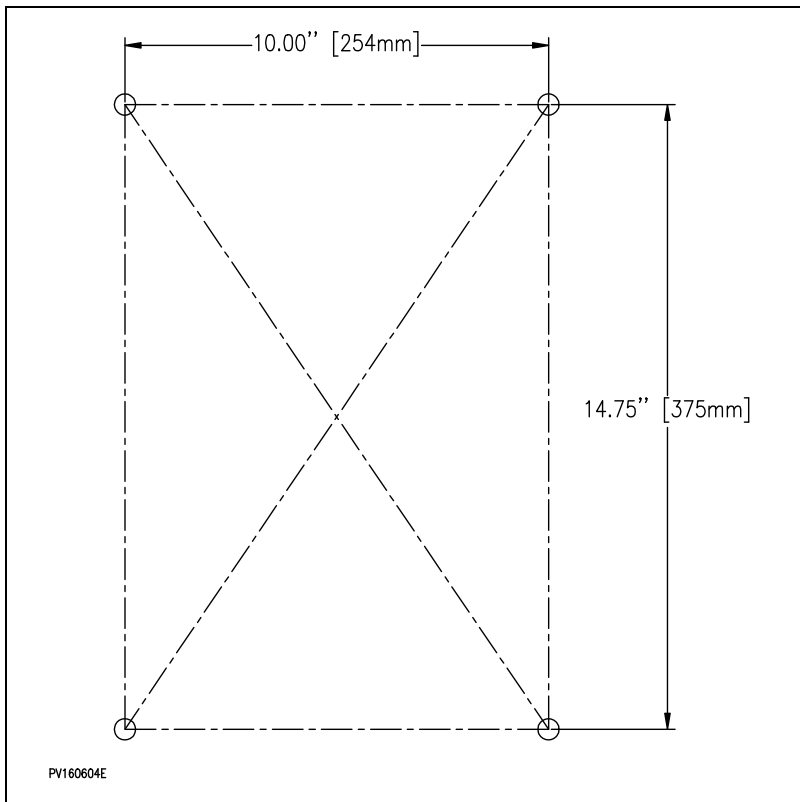
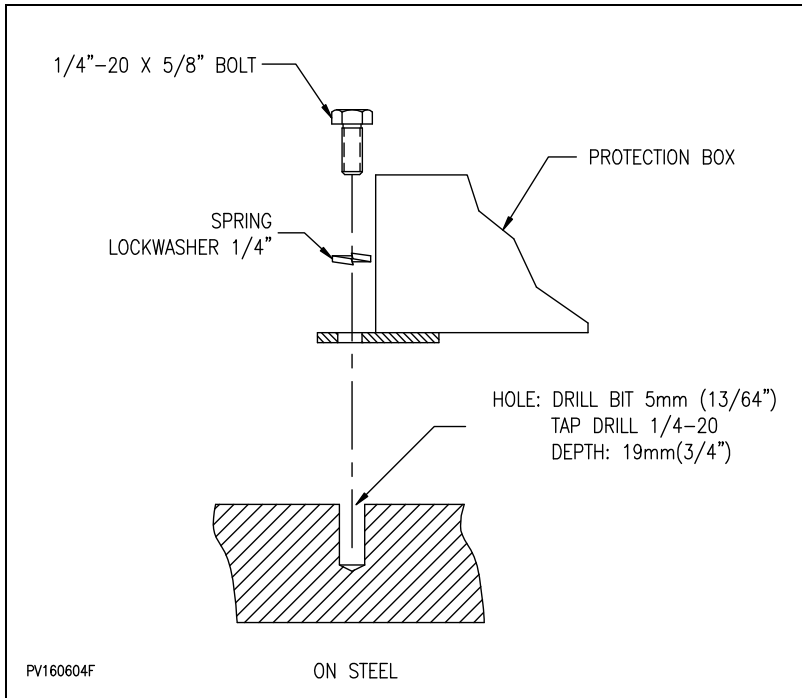
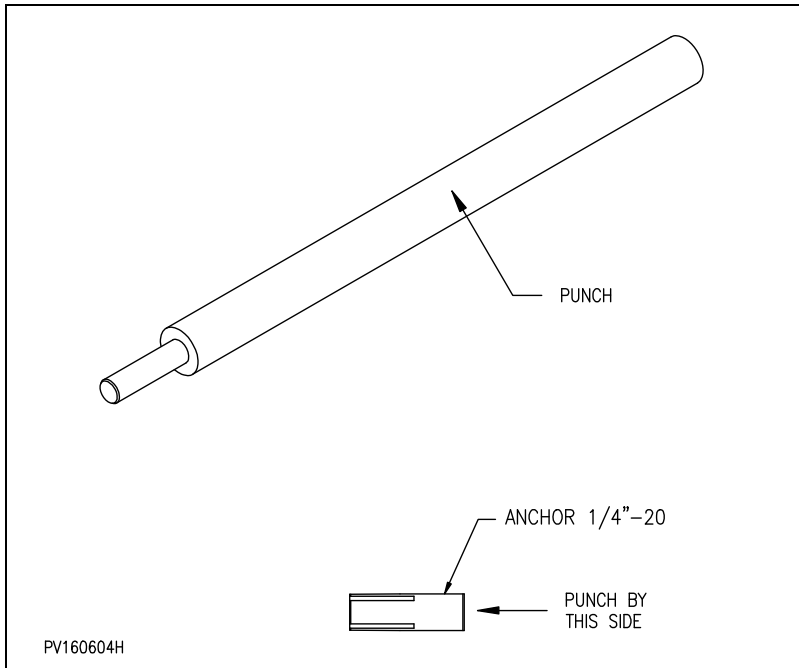

Figure 17 : Mounting holes location
Figure 18 : Fastening the protection box on steel
Figure 20 : Punch for concrete anchors
1. Drill (refer to *Figure 17* : "Mounting holes location") and thread into the structure (refer to *Figure 18* : "Fastening the protection box on steel").
1. Drill into the concrete wall (refer to *Figure 17* : "Mounting holes location") and set the anchor bolts with the special punch (refer to *Figure 20* : "Punch for concrete anchors").